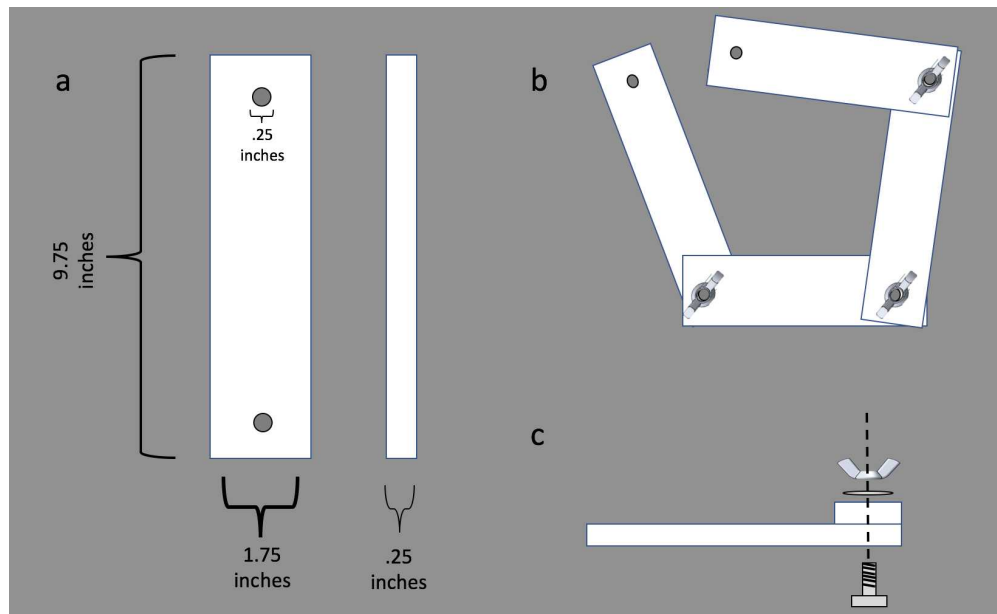

Figure 1: Schematic for building a SCOUPL.
- 4 - 9.75" x 1.25" x 0.25" HDPE/PVC-Acrylic bars (see Figure 1 below)